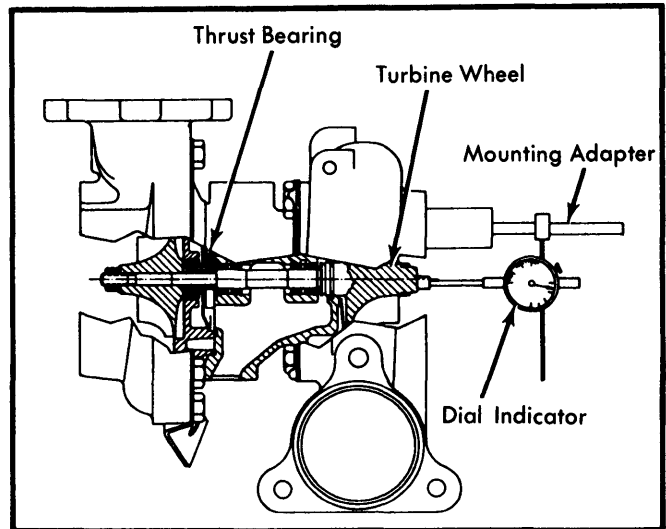

Fig. 6 Checking Thrust Bearing Axial Clearance With Dial Indicator
- a. Mount dial indicator at turbine end of turbocharger so that indicator tip rests on end of turbine wheel. See Fig. 6.